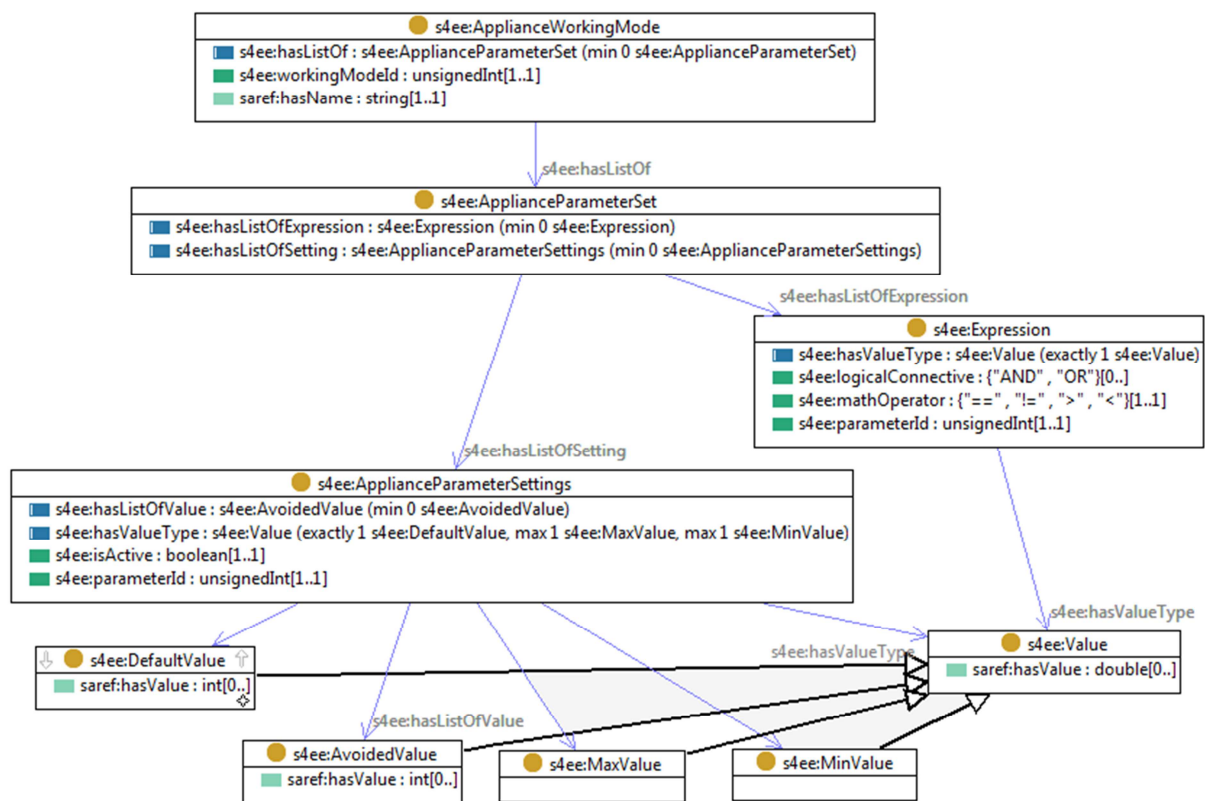

Figure 10 – The `s4ee:ApplianceWorkingMode` class and its properties
- It has a list of zero or more working modes (`s4ee:ApplianceWorkingMode` class in Figure 10) each representing a particular working mode such as “Synthetics”, “Mix 30” or “Super Cool”;